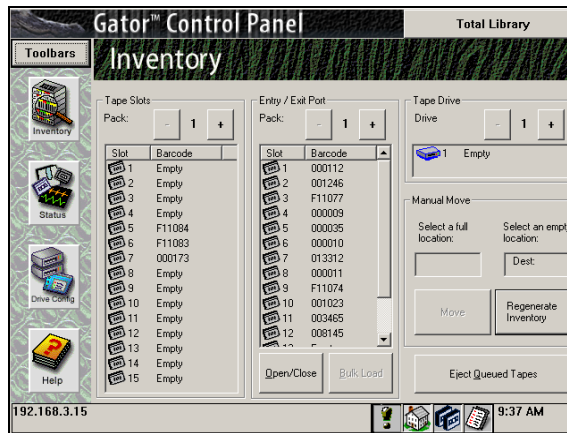

Figure 9-5 Inventory screen.
1. From the General Status screen, tap **Inventory**. This brings up the Inventory screen (Figure 9-5).